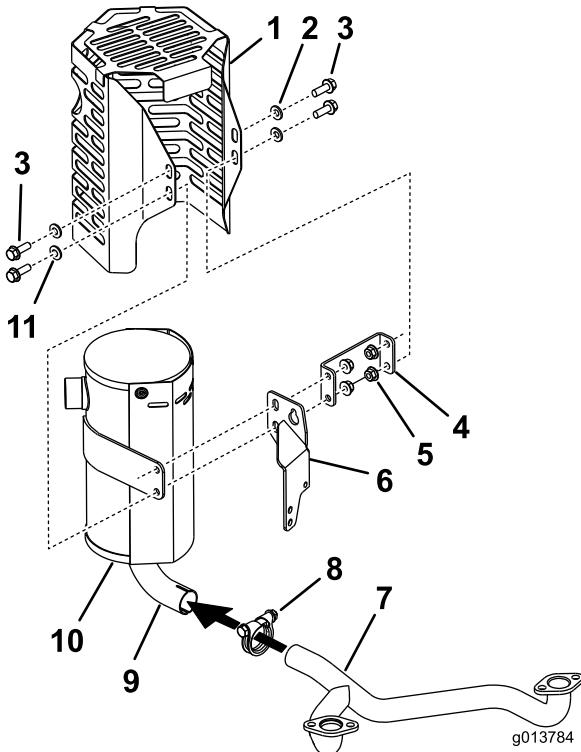

Figure 6
1. Slide the muffler clamp onto the muffler inlet and slide the muffler onto the exhaust manifold (Figure 6).
4. Install 2 bolts (M8 x 25mm) and 2 curved washers through the muffler shield, muffler and mounting bracket (Figure 6).
6. Install 2 bolts (M8 x 25mm) and 2 curved washers through the muffler shield and the muffler shield bracket. Secure the bolts with 2 side lock nuts and torque them to 132 in-lb (14.9 N-m) (Figure 6).